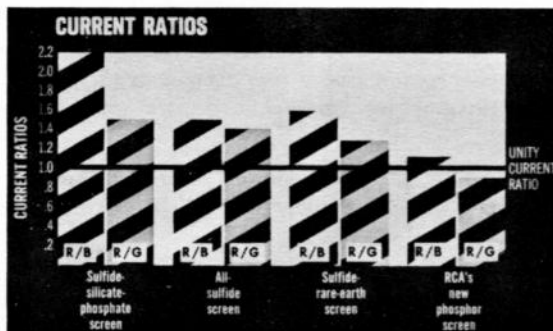

Figure 1—Current Ratios Required by Various Phosphor Combinations
2. The attainment of a unity current ratio as illustrated in Figure 1. In previous color picture tubes, the available red phosphors have been less efficient than those of the green or blue phosphors. Consequently, the red electron beam current has always been greater than that required for the green or blue phosphors to produce white light. This imbalance in beam currents caused the size of the red spot to be larger